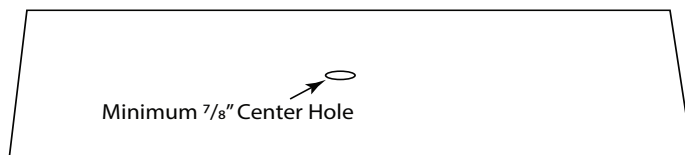
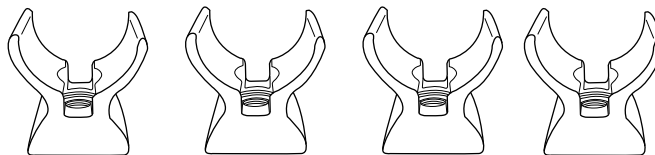
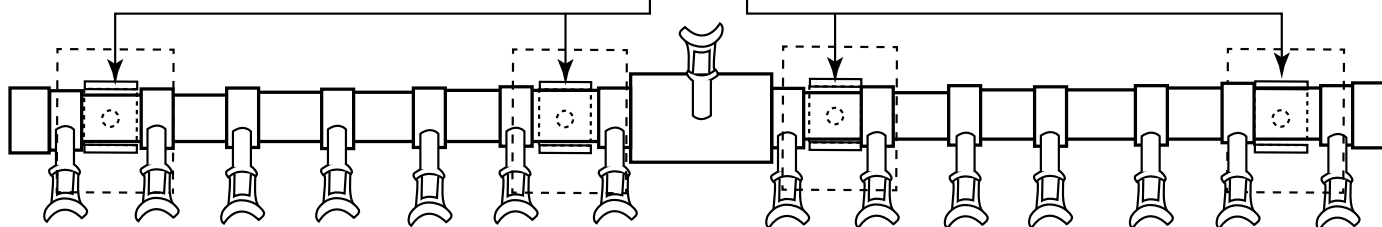

Fig. 4 Shows burner pan center hole.
Fig. 6 Brass burner supports.
Fig. 7 Locating brass burner supports.
All Pro T-Burners come ready to install and have a $\frac{3}{8}$ " male center nipple. The burner must be installed as shown in Fig. 4 with center nipple facing downward. Ensure to seal each NPT fitting with thread tape or pipe compound.
The burner pan requires a center hole a minimum of $\frac{7}{8}$ -inch in diameter (Fig. 4). The burner also is supplied with (3) brass burner supports required for assembly (Fig. 6).
Step 2: Using the (4) brass burner supports (supplied) in Fig. 6, install one support on each end of the burner and the other two supports on each side of the center block, close to the installed nipple as shown in Fig. 7. Continue to the Step 3 to mark burner support location on the burner pan.